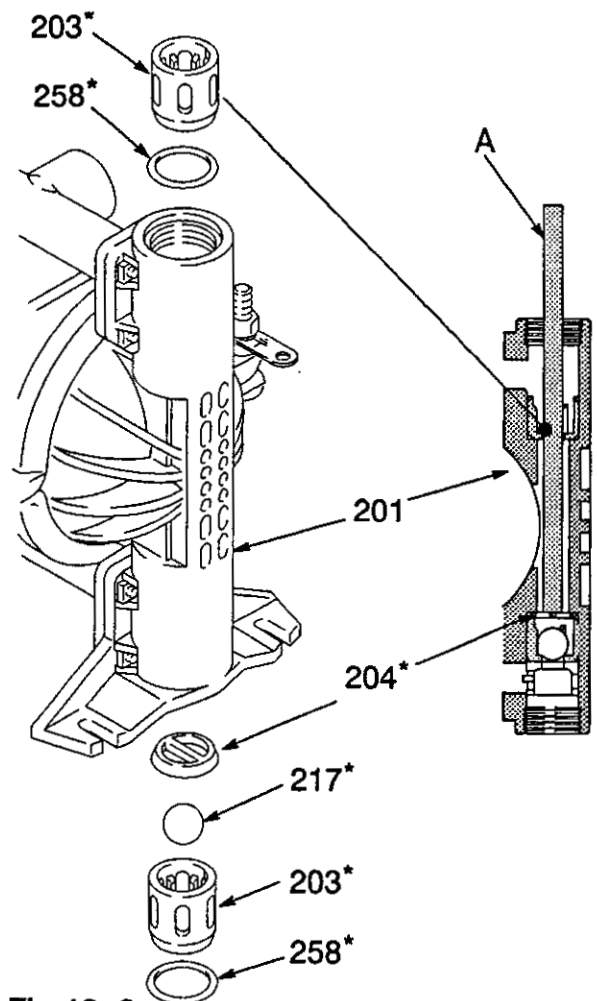

Fig 19-2
3. Insert a 3/8" dia. x 8" dowel (A) through the top ball guide (203*). Press on the bottom ball stop (204*) to push out the ball guide (203*), ball (217*), o-ring (258*), and ball stop. See Fig 19-2.
4. Turn the pump over. Insert the dowel at an angle so it contacts the edge of the top ball guide (203*), and push out the guide and o-ring (258). See Fig 19-2.